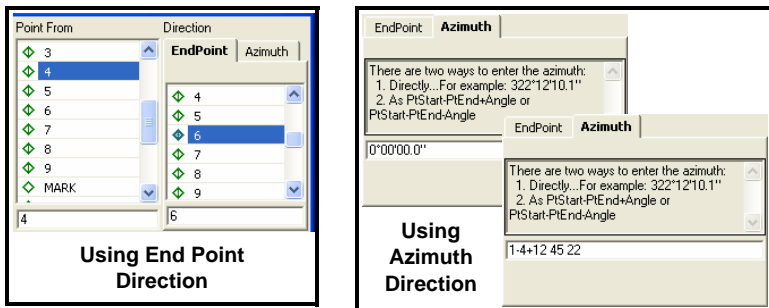

Figure 9-81. Enter the Direction
- To use an End Point for the ray (Figure 9-81), select the desired end point.
- To use an Azimuth for the ray (Figure 9-81), enter one of the following azimuth values: